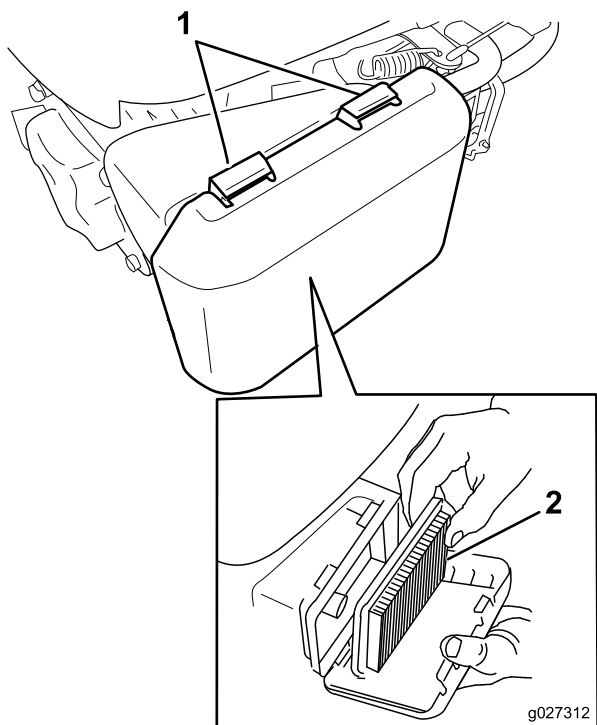

Figure 21
2. Press down on the latch tabs on top of the air-cleaner cover (Figure 21).